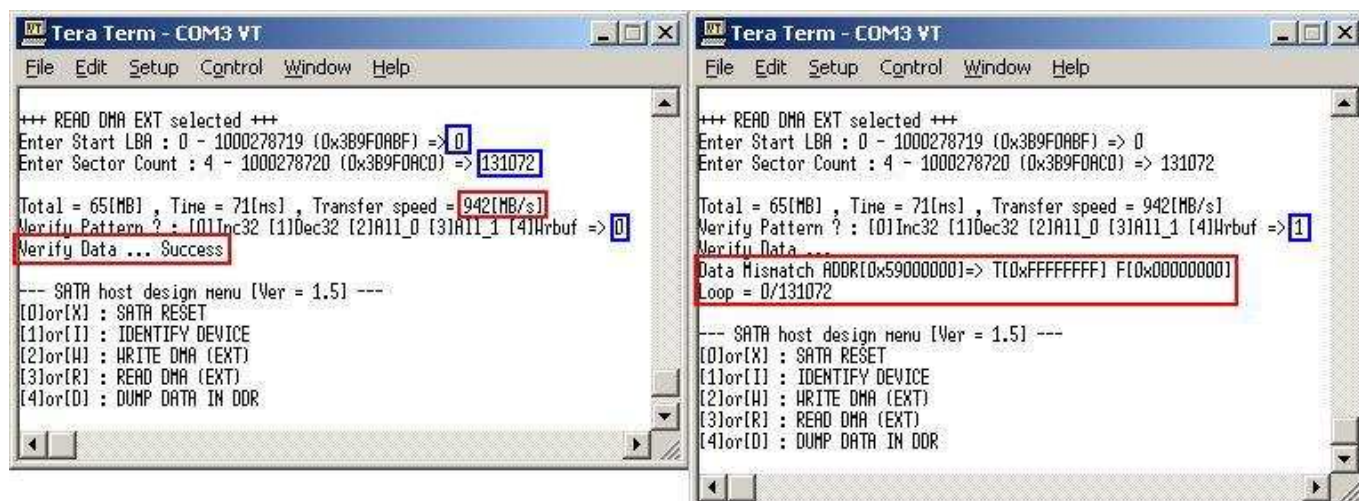

Figure 12 READ DMA (EXT) with verify process
- Verify Pattern: this menu will be displayed if Sector Count is less than or equal 131072. Five verify pattern can be selected, like in WRITE DMA (EXT) menu. "Verify Data ... Success" will be displayed if all data in read buffer are equal to check pattern, but "Data Mismatch with failure value" will be displayed instead if any data is not equal, as shown in Figure 12.